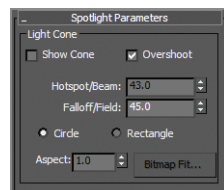

FIGURE 14.3
5. Go to the Modify panel and open the Spotlight Parameters rollout, shown in Figure 14.3.